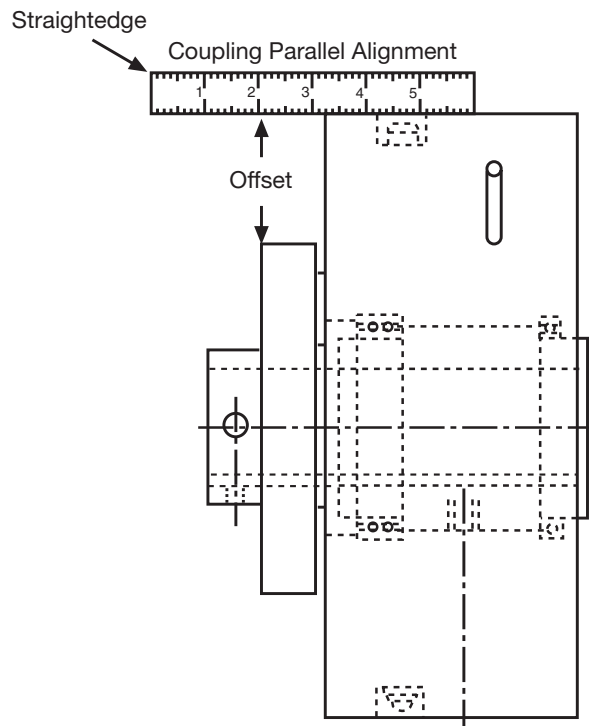

Figure 13
- a. Place a straightedge across the clutch housing and coupling flange as shown in Figure 13.